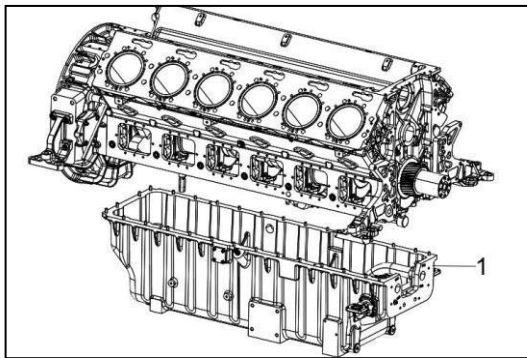

Figure 101
3. Remove the oil pan (Figure 101, 1).